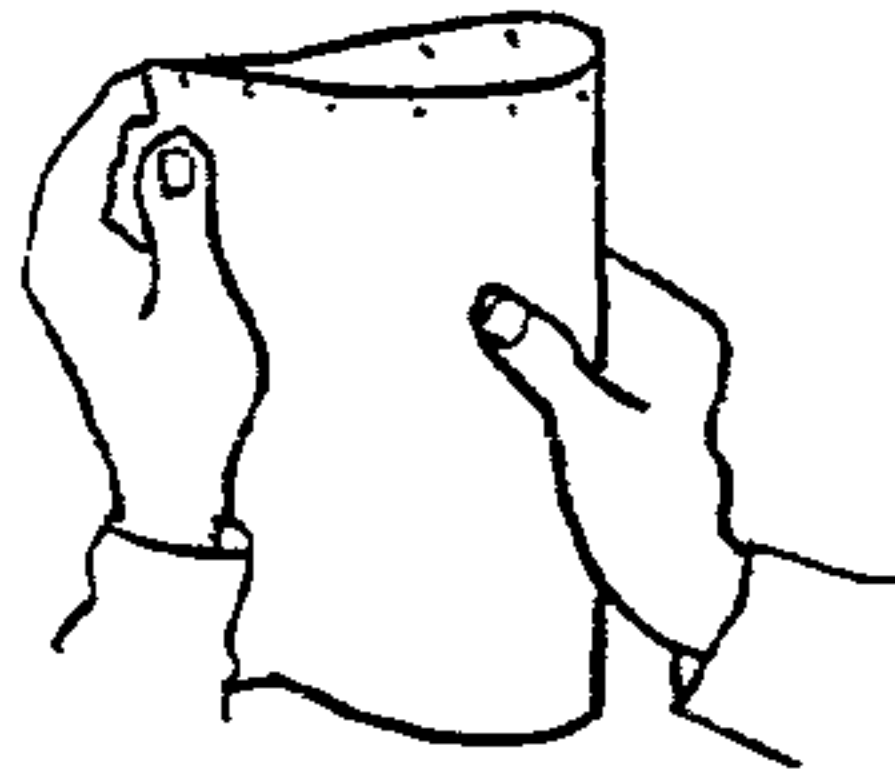

Figure 4-2
4. Punch a test sheet of paper. Fold punched test sheet to check punch hole location and alignment from edges of paper to ensure holes are equally spaced from edges of sheet (see Figure 4-2). Adjust Punch Edge Guide "A" if necessary, and recheck test sheet punched after adjustment.